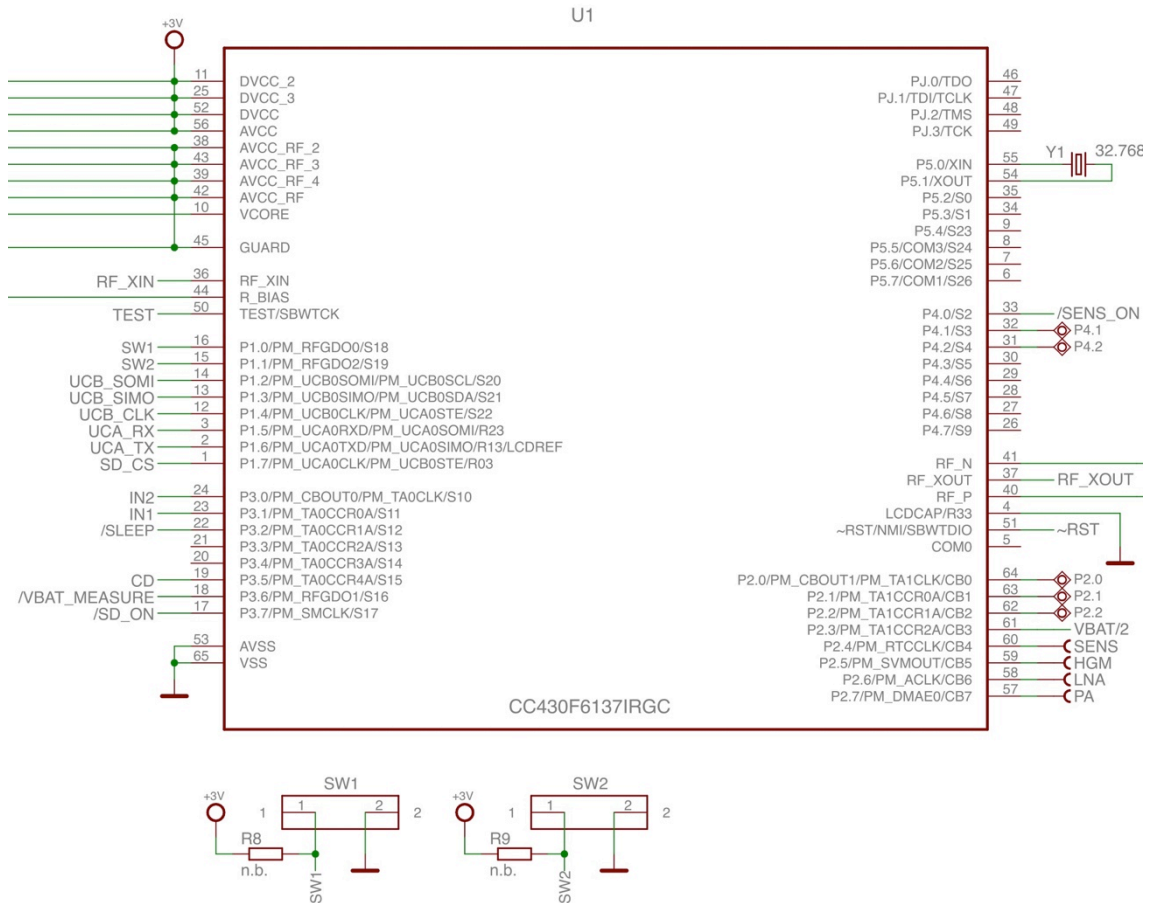

Figure 7.- CC430F6137
2. The following example uses the button SW1 to turn P2.0 on or off. Locate the pin number with the help of Figure 7.